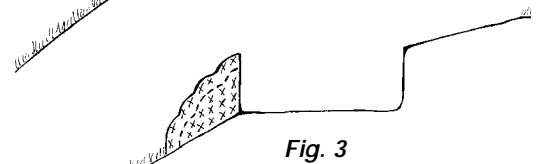

Fig. 3
3. Create a mound on the downhill side using the excavated soil. (See Fig. 3)